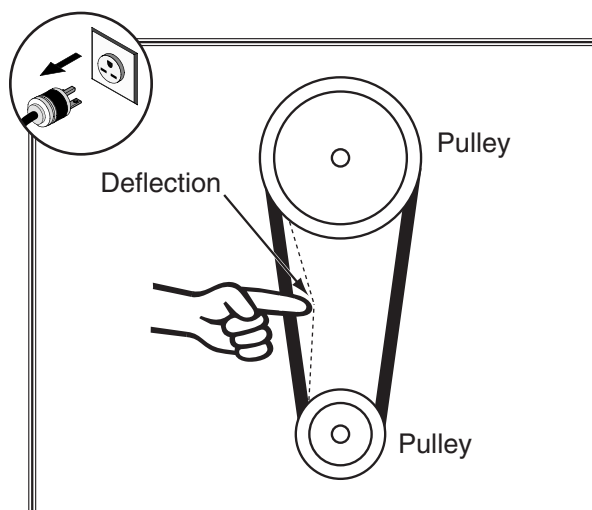

Figure 77. Checking V-belt deflection to ensure correct tension.
6. Check the belt tension by pushing (with moderate pressure) one of the belts between the pulleys, as shown in **Figure 77**. The correct deflection range is between $\frac{1}{4}$ " and $\frac{1}{2}$ ".